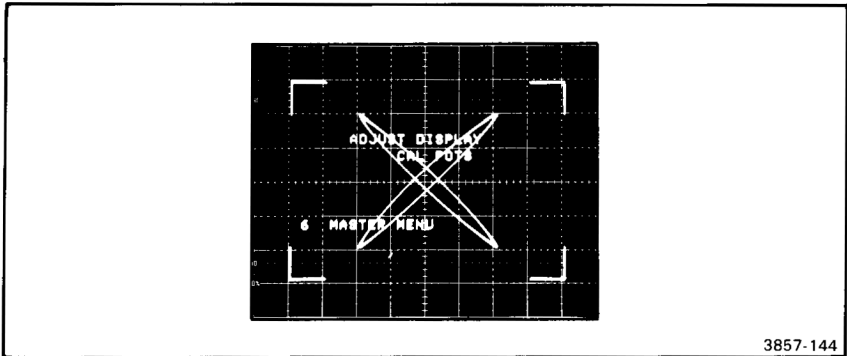

Figure 2-39. DISPLAY CAL PATTERN.
This menu selection is activated by pressing MEMORY DISPLAY key 3, which causes the DISPLAY CAL PATTERN shown in Figure 2-39 to be displayed. The DISPLAY CAL PATTERN is used with the DISPLAY CAL adjustments on the front panel to compensate the 7D20 display for the calibration of the host mainframe. Adjustment of these controls affect only the display and has no effect on the digitizing accuracy of the 7D20. Included in the DISPLAY CAL PATTERN is a VECTOR display that forms a flower pattern. Optimum VECTOR displays are achieved when the flower pattern is adjusted (using the VECT LIN adjustment) for a closed X pattern. The complete procedure for adjusting the DISPLAY CAL adjustments is given in the preliminary set-up portion of the "Get-Acquainted Exercises". To terminate the DISPLAY CAL PATTERN press MEMORY DISPLAY key 6 which returns the MASTER MENU to the display or press the illuminated MENU key which terminates the MENU mode. Instrument status and waveform data is retained during this process.